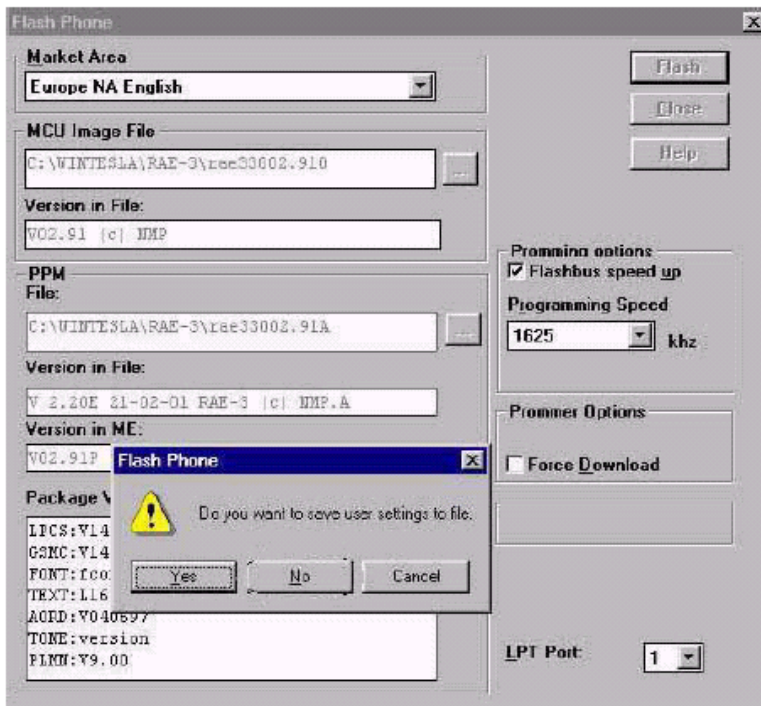

Figure 9. Saving user settings to file
- 10. Once the program is prompting for restoring user data choose YES if you want to save user settings to file. (see Figure 9)